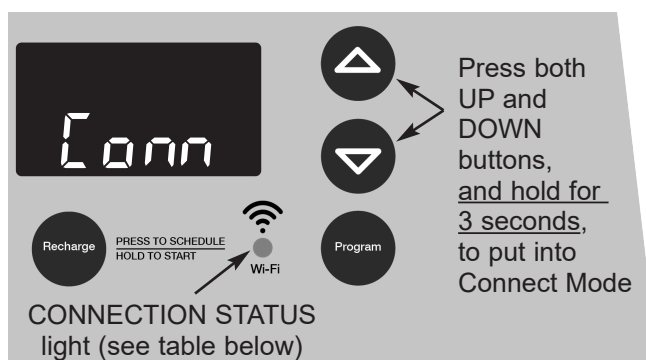

FIG. 29
3. On the water softener's front panel (See Fig. 29), press both the $\triangle$ UP and ∇ DOWN buttons, and hold them for 3 seconds.
4. Release the buttons when “Conn” appears in the display (See Fig. 29) and the connection status light turns solid amber.
2. After signing into your account, verify that the softener is still in Connect Mode (See Fig. 29). In the app, tap **Connect** to add the softener, then **Setup Device** to begin pairing via Bluetooth.